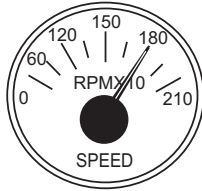

Figure 41. Engine Tachometer Gauge
14. The **tachometer gauge** (Figure 41) will indicate the speed of the engine when the generator is operating. Under normal operating conditions this speed is approximately 1,800 rpm.